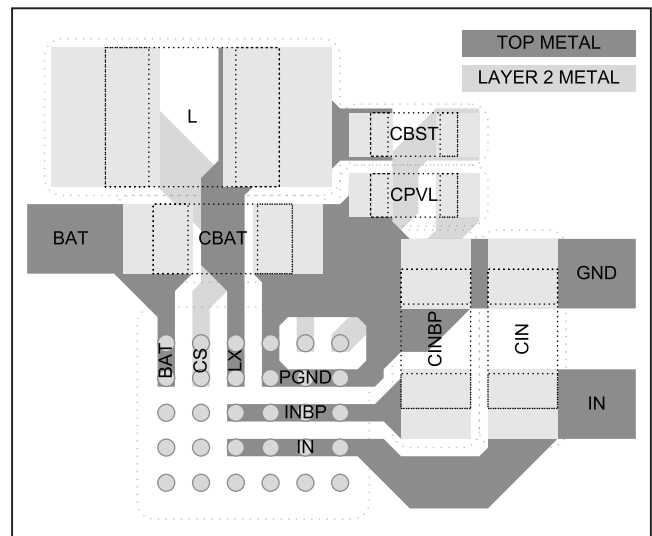
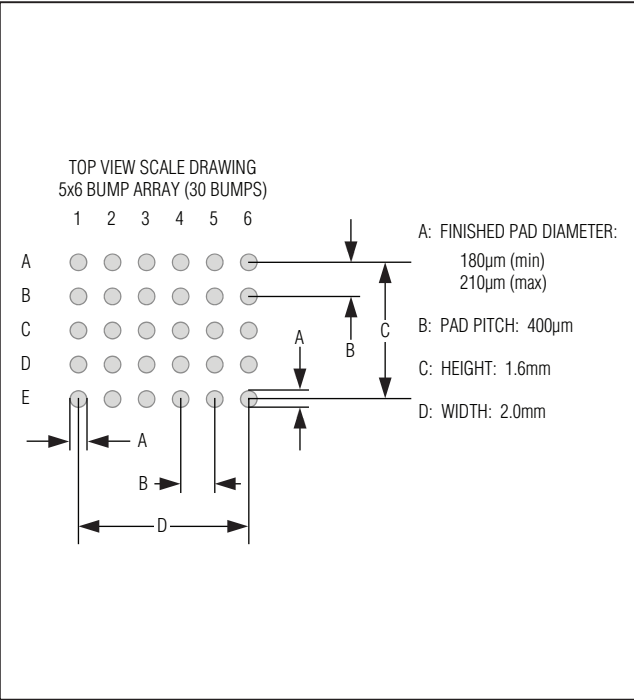
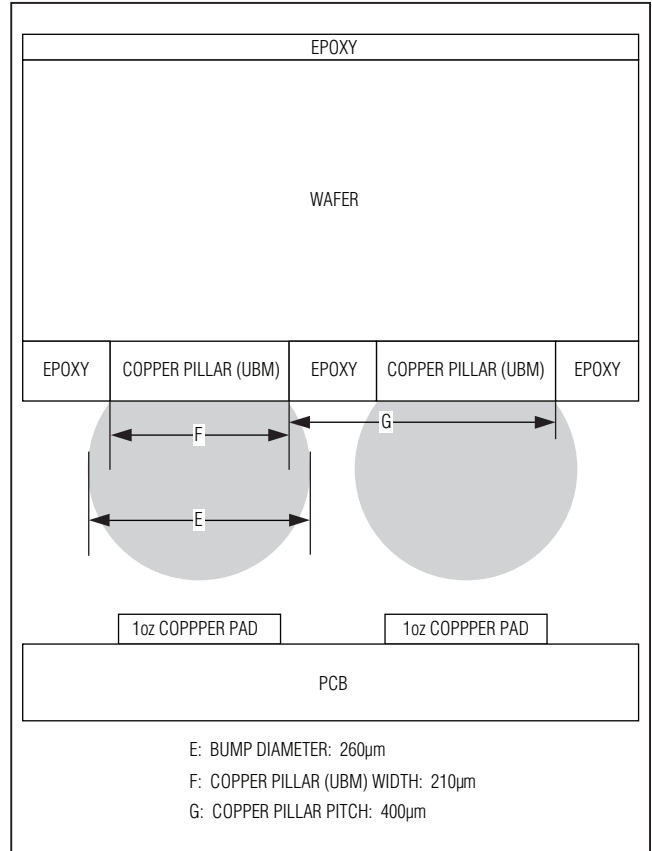

Figure 14. Power PCB Layout Example
Figure 15. Recommended Land Pattern
Figure 16. Bump Cross Section and Copper Pillar Detail
Figure 15 shows the recommended land pattern for the MAX8900_. Figure 16 shows the cross section of the MAX8900_'s bump with detail of the under-bump metal (UBM). The diameter of each pad in the land pattern is close to the diameter of the UBM. This land pattern to UBM relationship is important to get the proper reflow of each solder bump.
Careful printed circuit layout is important for minimizing ground bounce and noise. Figure 14 is an example layout of the critical power components for the MAX8900_. The arrangement of the components that are not shown in Figure 14 is less critical. Refer to the MAX8900 Evaluation Kit for a complete PCB layout example. Use the following
- 5) In Figure 14, the CS node is connected to the second layer of metal with vias. Use low-impedance vias that are capable of handling 1.5A of current. Also, keep the routing inductor current path on layer 2 just underneath the inductor current path on layer 1 to minimize impedance.
- 6) Both C_{BST} and C_{PVL} deliver current pulses for the MAX8900_'s MOSFET drivers. These components should be placed as shown in Figure 14 to minimize parasitic impedance.
In Figure 14, many of the top layer bump pads are connected together in top metal. When connecting bumps together with top layer metal, the solder mask must define the pads from 180 μ m to 210 μ m as shown in Figure 15. When using solder mask defined pads, please double check the solder mask openings on the PCB Gerber files before ordering boards as some PCB layout tools have configuration settings that automatically oversize solder mask openings. Also, explain in the PCB fabrication notes that the solder mask is not to be modified. Occasionally, optimization tools are used at the PCB fabrication house that modify solder masks. Layouts that do not use solder mask defined pads are possible. When using these layouts, adhere to the recommendations A through G above.